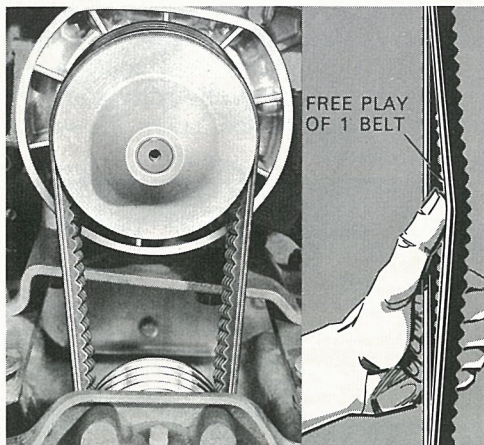

Figure 29
BELTS: Check the condition of the (4) drive belts. See page 20, fig. 29.
To determine the free play, press down with your thumb the middle section of any of the 4 drive belts. A reference to the next belt should show normal flexion of (1) belt thickness (see fig. 29).